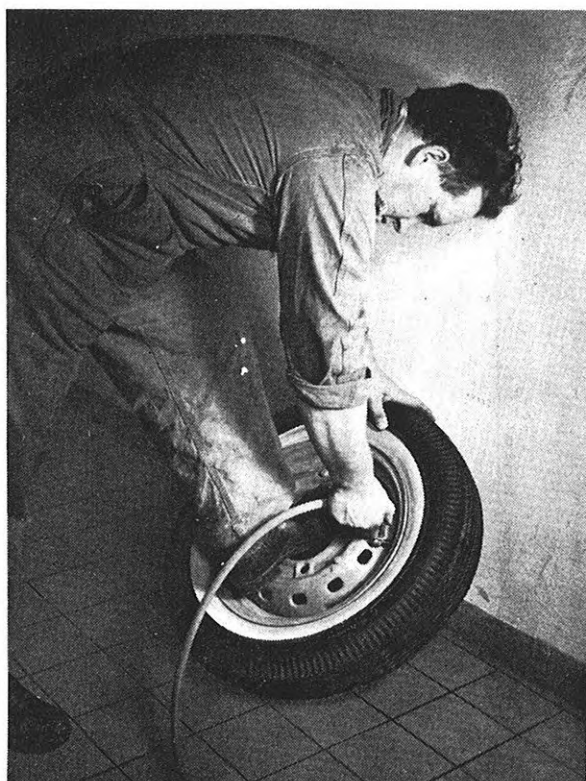

Fig. 11. Seating the beads in the rim
- b. Place the wheel at 45° against a wall and push in the rim with the foot, see Fig. 11, in order to force the bead up onto the rim flanges. Then turn the wheel and repeat this with the other bead. Inflate the tire rapidly so that the beads are properly seated in the rim.